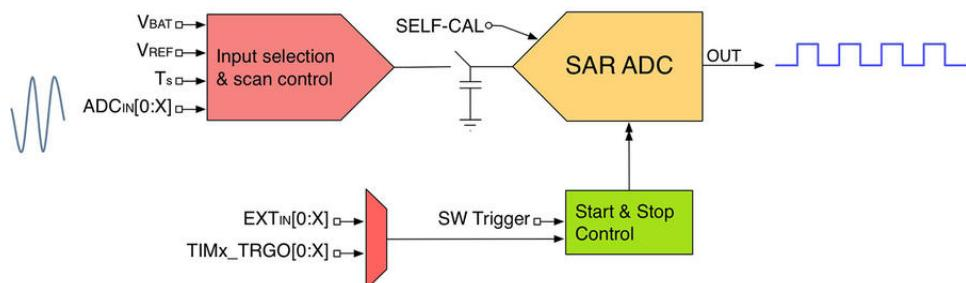
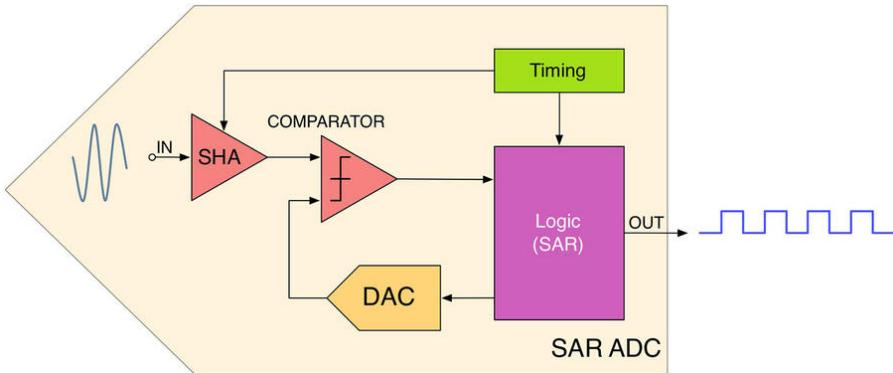
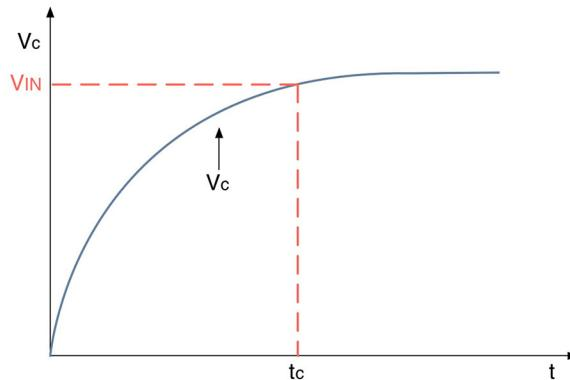

Figure 1: The simplified structure of an ADC
Figure 2: The internal structure of a SAR ADC
Figure 4: The effect of the ADC resistance on the analog signal source
Figure 1 schematizes the structure of the ADC². An *input selection and scan control unit* performs the selection of the input source to the ADC. Depending on the conversion mode (single, scan or
²Figure 1 is a really simplified representation of the ADC. Since the ADC implementation can differ a lot among the several STM32 families, here we are going to consider a simplified view that clearly describes how the ADC unit is designed.
Figure 1 also shows another important part of the ADC: the *start and stop control* unit. Its role is to control the A/D conversion process, and it can be triggered by software or by a variable number of input sources. Moreover, it is internally connected to the TRGO line of some timers so that time-driven conversions can be automatically performed in DMA mode. We will analyze this important mode of the ADC peripheral later.
Figure 2 shows the main blocks forming the SAR ADC unit shown in **Figure 1**. The input signal goes through the SHA unit. As you can see in **Figure 1**, a switch and a capacitor are in series with the ADC input. That part represents the *Sample-and-Hold* (SHA) unit shown in **Figure 2**, which is a feature available in all ADCs. This unit plays the important role to keep the input signal constant during the conversion cycle. Thanks to an internal timing unit, which is regulated by a configurable clock as we will see later, the SAR constantly connects/disconnects the input source by closing/opening the “switch” in **Figure 1**. To keep the voltage level of the input constant, the SHA is implemented with a network of capacitors: this ensure that source signal is kept at a certain level during the A/D conversion, which is a procedure that requires a given amount of time, depending on the conversion frequency chosen.
The charging of the internal capacitor network (that we indicate with C_{ADC}) is controlled by the switch in **Figure 1** having a resistance equal to R_{ADC} . With the addition of source resistance (that is, $R_{TOT} = R_{ADC} + R_{IN}$), the time required to fully charge the hold capacitor increases. **Figure 4** shows the analog signal source resistance effect. The effective charging of C_{ADC} is governed by R_{TOT} , so the charging time constant becomes $t_C = (R_{ADC} + R_{IN}) \times C_{ADC}$. If the sampling time is less than the time required to fully charge the C_{ADC} through R_{TOT} ($t_S < t_C$), the digital value converted by the ADC is less than the actual value. In general, it is necessary to wait a multiple of t_C to achieve a reasonable accuracy.
- **ClockPrescaler**: defines the speed of the clock (ADCCLK) for the analog circuitry part of ADC. In the previous paragraph we have seen that the ADC has an internal timing unit that controls the switching frequency of the input switch (see **Figure 2**). The ADCCLK establishes the speed of this timing unit and it impacts on the number of samples per seconds, because it defines the amount of time used by each conversion cycle. This clock is generated from the peripheral clock divided by a programmable prescaler that allows the ADC to work at $f_{PCLK}/2, 4, 6$ or $/8$ (refer to the datasheets of the specific MCU for the maximum values of ADCCLK and its prescaler). In some STM32 MCUs the ADCCLK can also be derived from the HSI oscillator. The value of this field affects the ADCCLK speed of all ADCs implemented in the MCU.